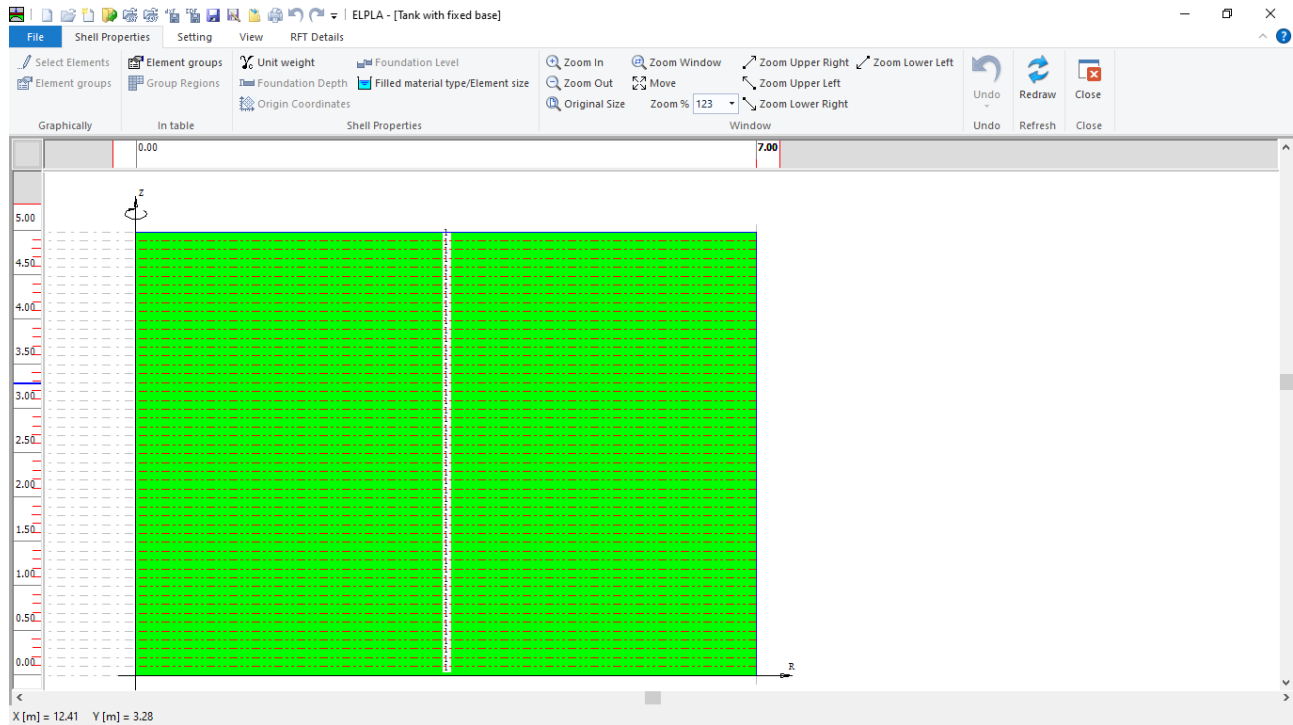
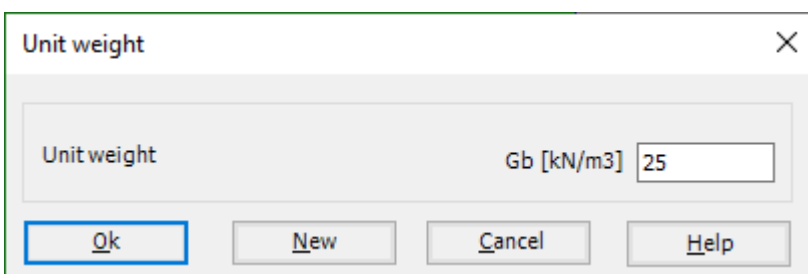

Figure 3.10 "Shell Properties" Window
Figure 3.12 "Unit weight" dialog box
To define the tank properties, choose "Shell Properties" command from "Data" Tab. The following window in Figure 3.10 appears with default shell properties. The data of shell properties for the current example, which are required to be defined, are element groups, unit weight of the shell and the filled material properties.
To enter the unit weight of the shell, choose "Unit weight" command from "Shell Properties" menu in the window of Figure 3.10. The following dialog box in Figure 3.12 with a default unit weight of 25 [kN/m3] appears, Click "OK" button.
To define the liquid properties of the shell, choose "Filled material type/Element size" command from "Shell Properties" menu in the window of Figure 3.10. The following form in Figure 3.13.
- Choose "Save" command from "File" menu in Figure 3.10 to save the shell properties
- Choose "Close" command from "File" menu in Figure 3.10 to close the "Shell properties" window and return to *ELPLA* main window